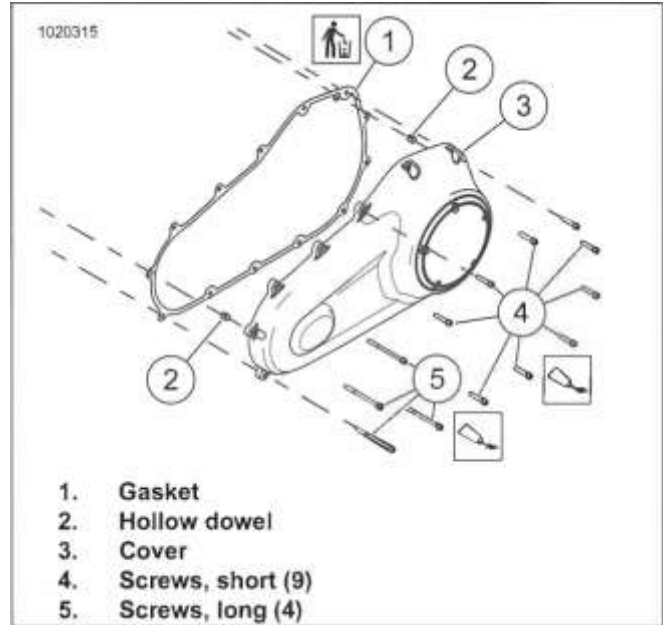

Figure 5-9. Primary Chaincase Cover
1. See Figure 5-9. Remove primary chaincase cover.
- b. Remove cover (3).
- c. Remove and discard gasket (1).
1. See Figure 5-9. Verify all debris is washed from inside ribs of cover.
2. Verify hollow dowels (2) are installed properly.
3. Install **new** cover gasket (1).